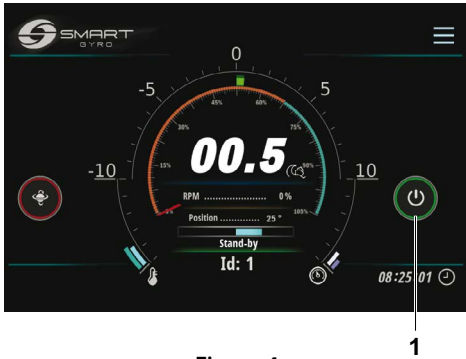

Figure 4
3. Press the Power (ON/OFF) icon (Figure 4, (1)) to power on the gyro unit.